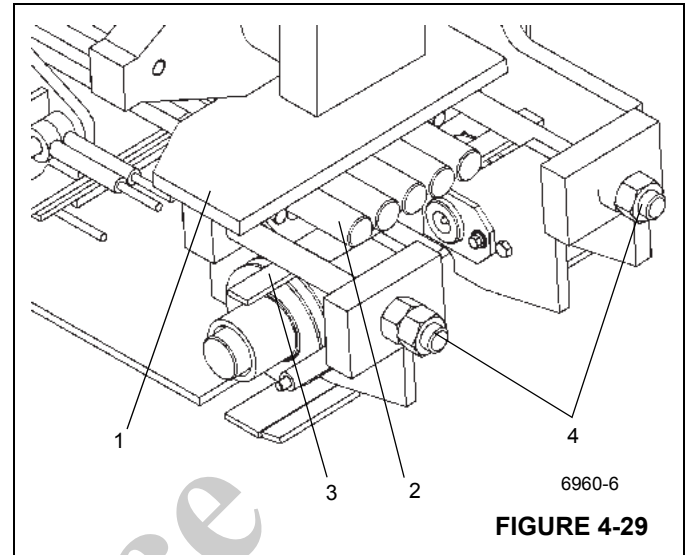

FIGURE 4-29
4. Position the extend cable sled weldment (1) on the five large extend cables (2), slots down, and secure the cables to the sled with keeper plate and two bolts (3) (Figure 4-29). Be careful not to tangle cables.
5. Install two long adjusting bolts (4) through holes in sled, heads from the front (Figure 4-29).